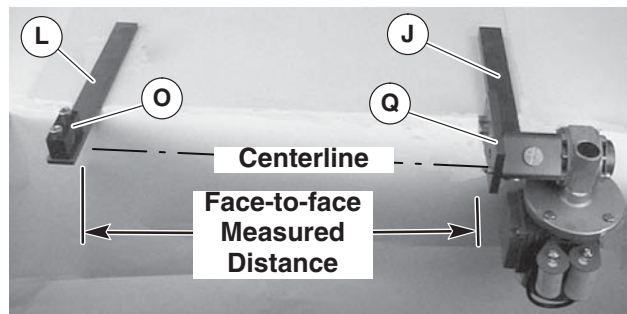

Figure 7
Mounting holes are not provided. Ensure that gearmotor assembly (Figure 7, item J) and bearing support assembly (L) are parallel and center-line of coupling matches center-line of bearing block (O).
- Attach gearmotor assembly (Figure 7, item J) and bearing support assembly (L) to mounting surface.